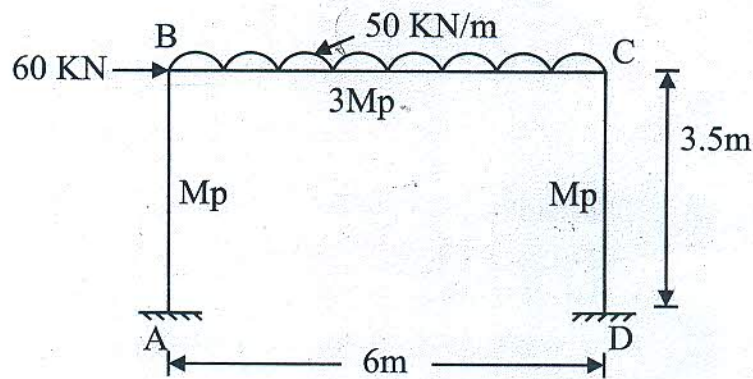

Fig. 3
- (b) Determine the value of fully plastic moment  $M_p$  for the frame shown in Fig. 3.